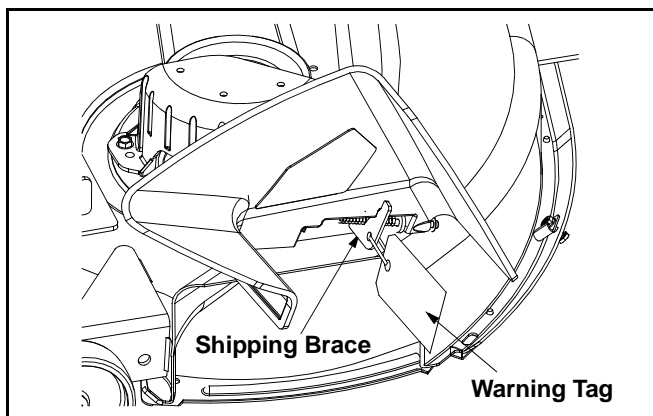

Figure 6
- Locate the shipping brace and warning tag found on the right side of the cutting deck. See Figure 6.